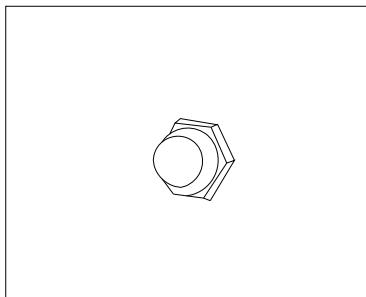
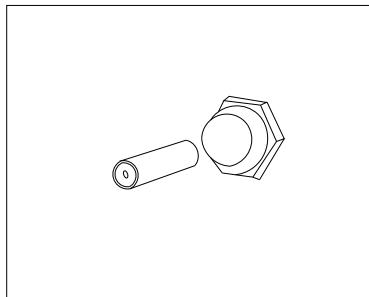
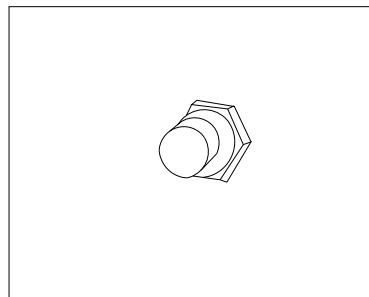
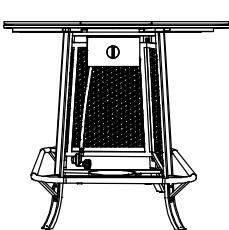

Fig. 1
Fig. 2
Fig. 3
Fig. 4
3-Unscrew the battery box as shown in Fig 1.Insert the negative electrode side of the battery into the bottom of battery box as shown in Fig 2. Then screw the battery box as shown in Fig 3.
1) Clean the valve and ensure the tank holder is situated in an appropriate location (Fig. 1).
2) Loosen the tank holder retainer bolt by turning counter-clockwise (Fig. 2). Place the propane tank on the tank holder (Fig. 3) and tighten the retainer bolt securing the tank to the tank holder (Fig. 4).